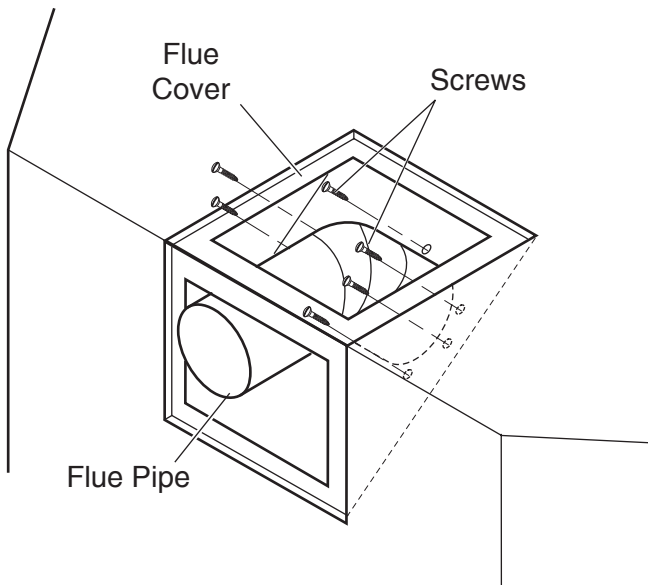

Figure 10 - Removing Flue Pipe
4. Remove six (6) screws securing the flue pipe to the back of the intake box and remove the pipe and gasket. See Figure 10.